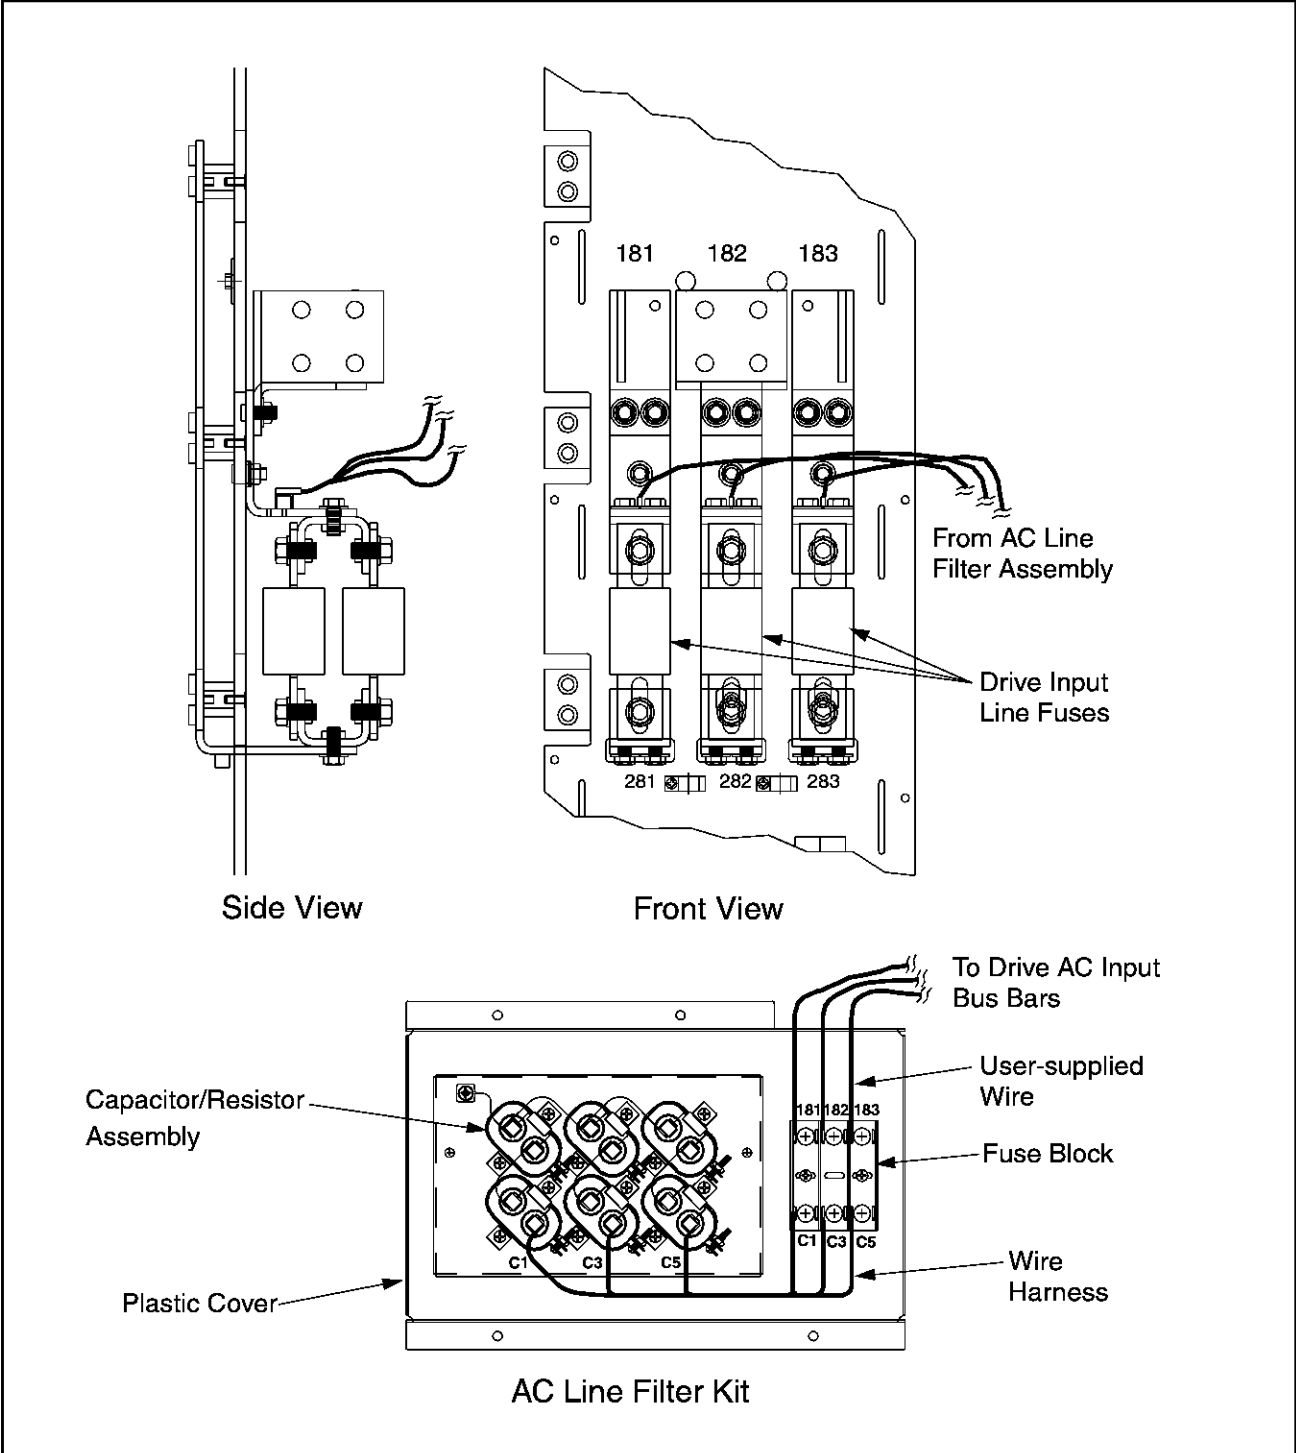

Figure 2 – Wiring the AC Line Filter Kit
Step 3. Attach the capacitor assembly using two (2) M6 star washers and two (2) M6 x 25 self-threading screws (see figure 2). Tighten to 5.1 Nm (45 in-lb).
Step 4. Attach the fuse block using two (2) M4 flat washers and two (2) M4 x 12 self-threading screws (see figure 2). Tighten to 1.4 Nm (12 in-lb).
Refer to figure 2 to wire the AC Line Filter kit.
- Step 1. Cut three (3) pieces of 600 V, 14 AWG wire (maximum length 1.2 m (4 ft) each). These wires should be of sufficient length to connect the spade terminals on the fuse block to the connectors on each of the drive's AC input bus bars. Terminate the ends of each wire with the female spade terminals provided in the kit.
- Step 4. Install the three (3) 7.5 A fuses provided in the kit into the fuse block.
- Step 5. Install the plastic cover using four (4) M4 flat washers and four (4) M4 x 12 self-threading screws (see figure 2). Tighten to 1.4 Nm (12 in-lb).